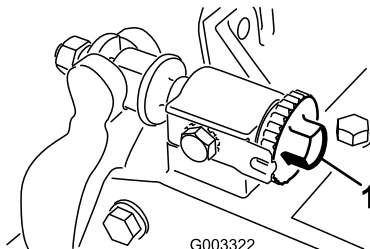

Figure 23
1. Loosen the reel-to-bedknife contact by turning the bedknife-adjusting knobs (Figure 23) counterclockwise until no contact exists.